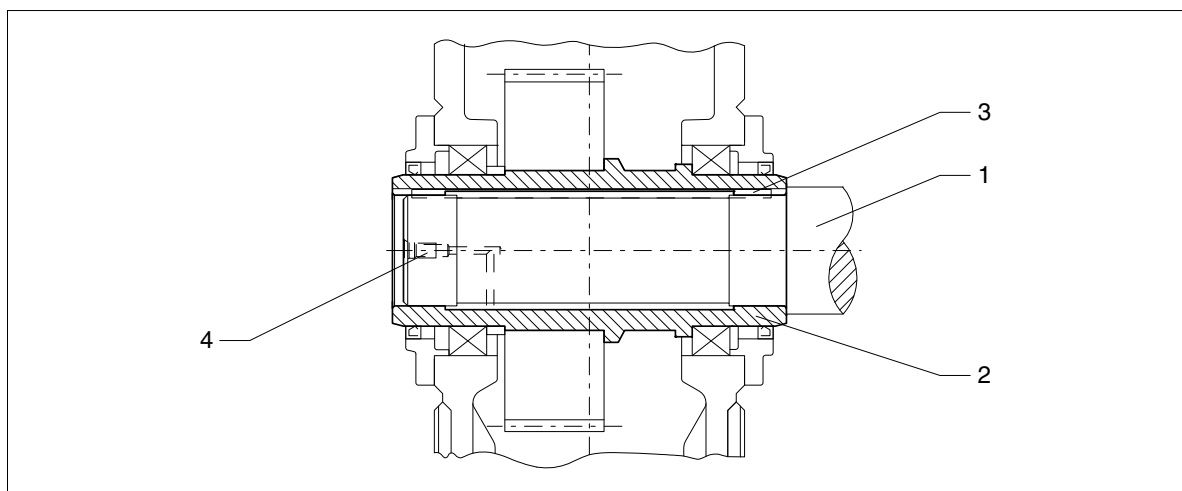

Fig. 46: Hollow shaft with parallel keyway, preparation
To facilitate demounting (see also item 6.4.3), we recommend providing a connection for pressure oil on the end of the driven machine shaft. For this a hole must be drilled through to the hollow shaft bore (see figure 46). This connection may also be used for supplying rust-releasing agent.
- If frictional corrosion has occurred on the seating surfaces, rust-releasing agent may be used in order to facilitate forcing off the gear unit. The rust releaser can be injected through the pressure-oil connection (see figure 46), e.g. using a pump.